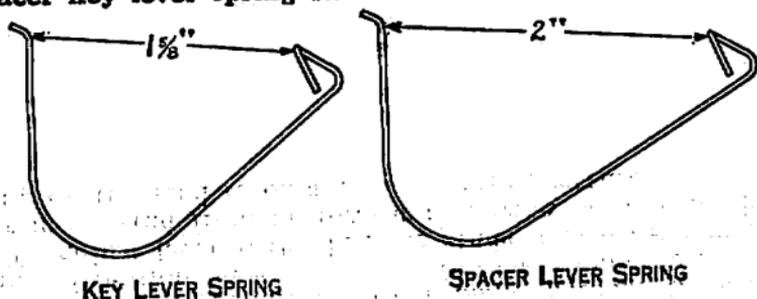

Fig. 2
3.03 The opening between ends of all key lever springs[†] excepting spacer key lever spring shall measure 1-5/8". The spacer key lever spring should measure 2". See Fig. 2.